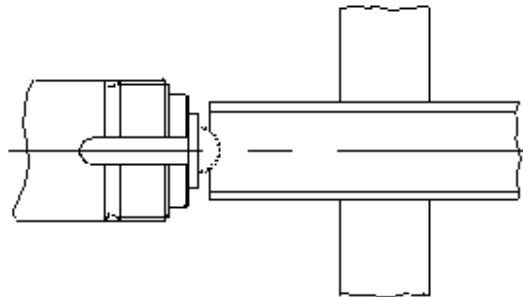

Fig. 2-5.
- ① Loosen M10 hexagon socket bolts(21) with a 8mm hexagon wrench and remove the bolts by hand.
- ② Remove the dowel pins(26) with dowel pin removal jig.
- ③ Attach the jig 1 to outlet casing(3) at the location of removed bearing cover (5), utilizing six M10 bolts with the length of 45mm. These bolts are included in the jig.
- ④ Attach the two special M24 bolts to the screw holes of the jig 1 and check to confirm that the points of these special bolts lightly touch the end of the screw rotors through the jig 1 as shown in Fig. 2-5.